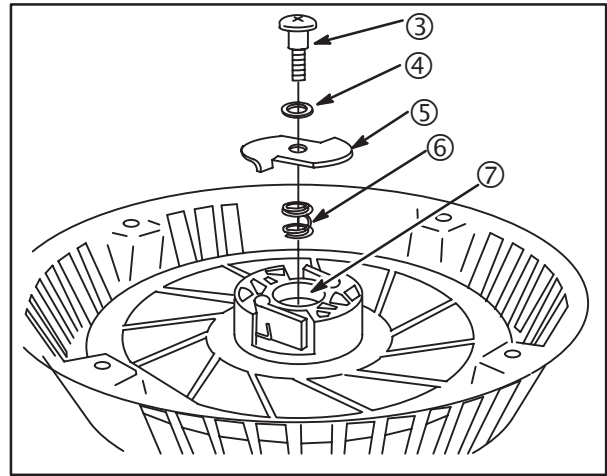

Fig. 73
- Place large washer (7), brake spring (6) and retainer (5) on pulley, **Fig. 73**.
- Place small washer (4) on shoulder screw (3). Install screw and washer in center pivot post.